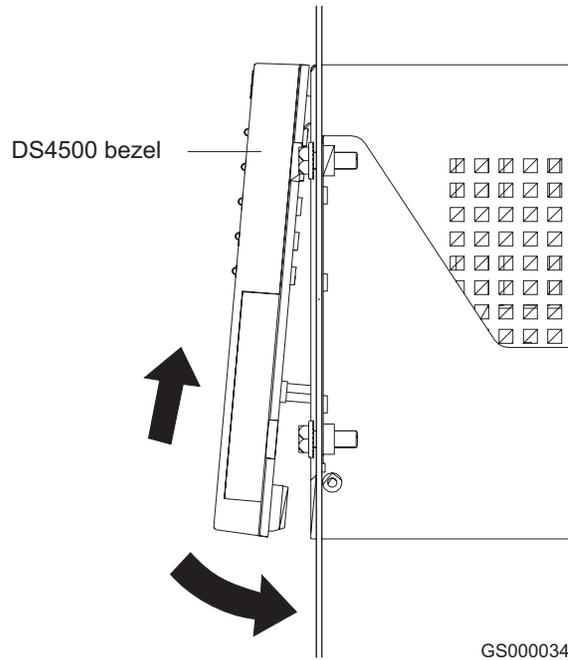

Figure 22. Replacing the DS4500 Storage Server bezel
2. To replace the bezel, slip the top edge of the bezel under the lip on the chassis, then push the bottom of the bezel until the pins snap into the mounting holes, as shown in Figure 22 on page 22.